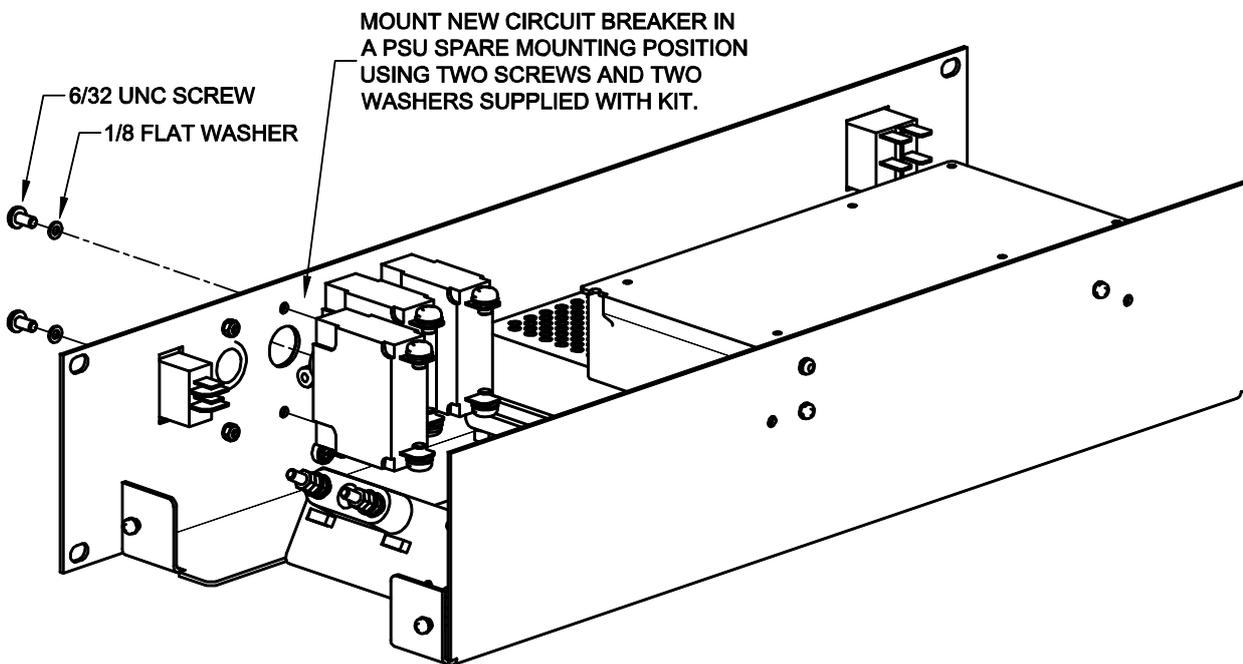

Figure 3 – Mounting of new Circuit Breaker
6. Mount the new Circuit Breaker in the PSU2412 as shown in Figure 3 below. The shorter lead with two lugs goes uppermost.